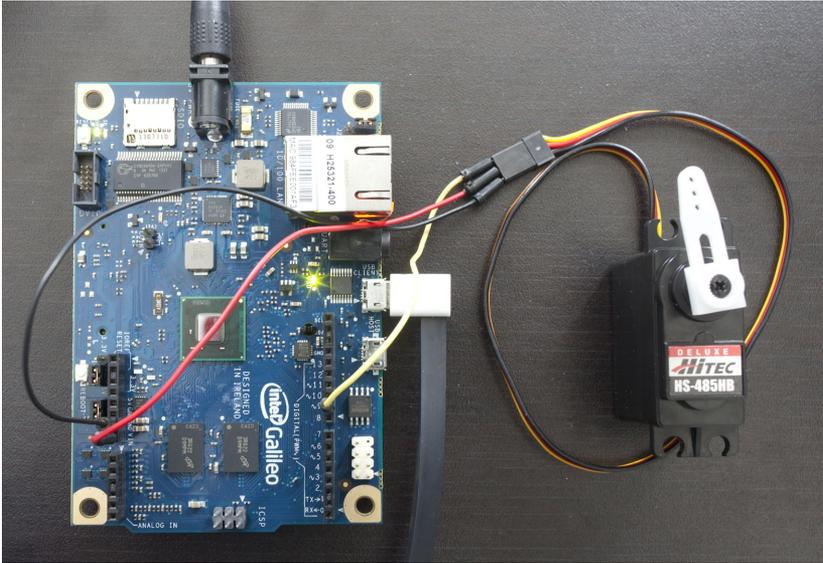

Figure 3-19. Wiring up a hobby servo to Galileo
3. Connect the yellow wire from the servo to digital pin 9. It should look something like Figure 3-19 or Figure 3-20.